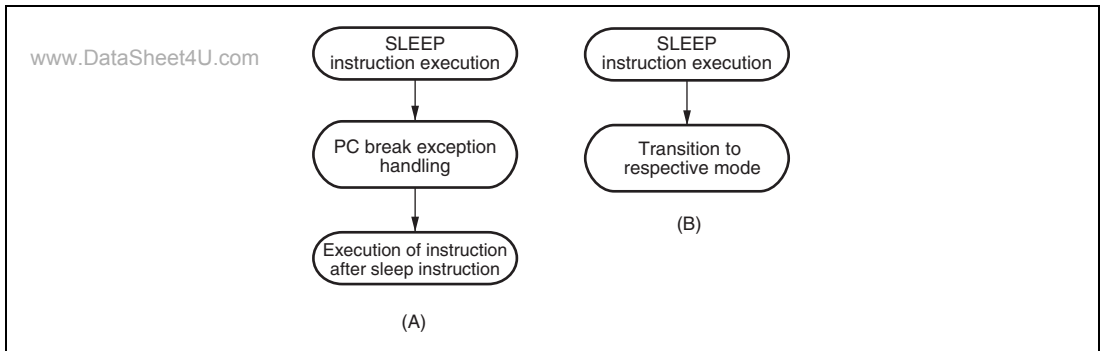

Figure 6.2 Operation in Power-Down Mode Transitions
After execution of the SLEEP instruction, a transition is not made to sleep mode, and PC break exception handling is executed. After execution of PC break exception handling, the instruction at the address after the SLEEP instruction is executed (figure 6.2 (A)).
After execution of the SLEEP instruction, a transition is made to software standby mode, and PC break exception handling is not executed. However, the CMFA or CMFB flag is set (figure 6.2 (B)).